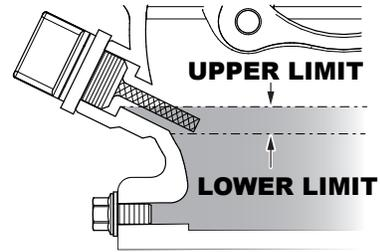

Figure 8. Engine Oil Dipstick(Oil Level)
4. If the oil level is low (Figure 8), fill to the edge of the oil filler hole with the recommended oil type (Table 5). Maximum oil capacity is 0.63 quarts (0.60 liters).